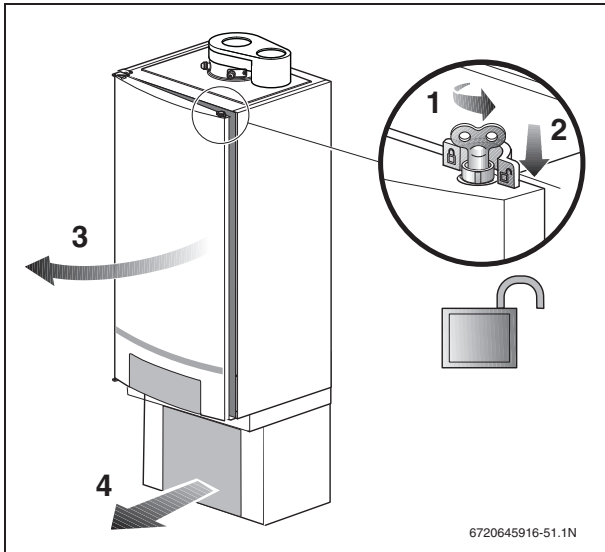

Fig. 51 Opening the boiler door
- Turn the vent key a quarter rotation to undo the boiler door lock (fig. 51, → detailed picture).
- Push the fastener down (fig. 51, step 2) and open the boiler door.
- Remove the insulation cover of the pump group (fig. 51, step 4)
- Turn the vent key through a quarter rotation to undo the boiler door lock (fig. 51, page 42).